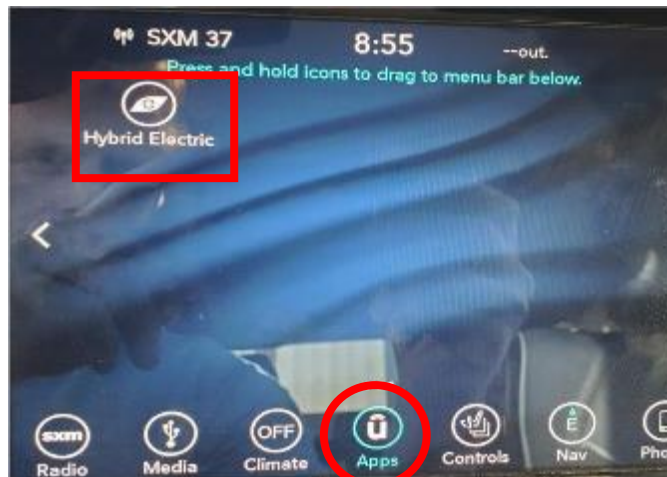

Figure 1 – Apps Display Screen
15. Select “Apps” then “Hybrid Electric” on the display (Figure 1).